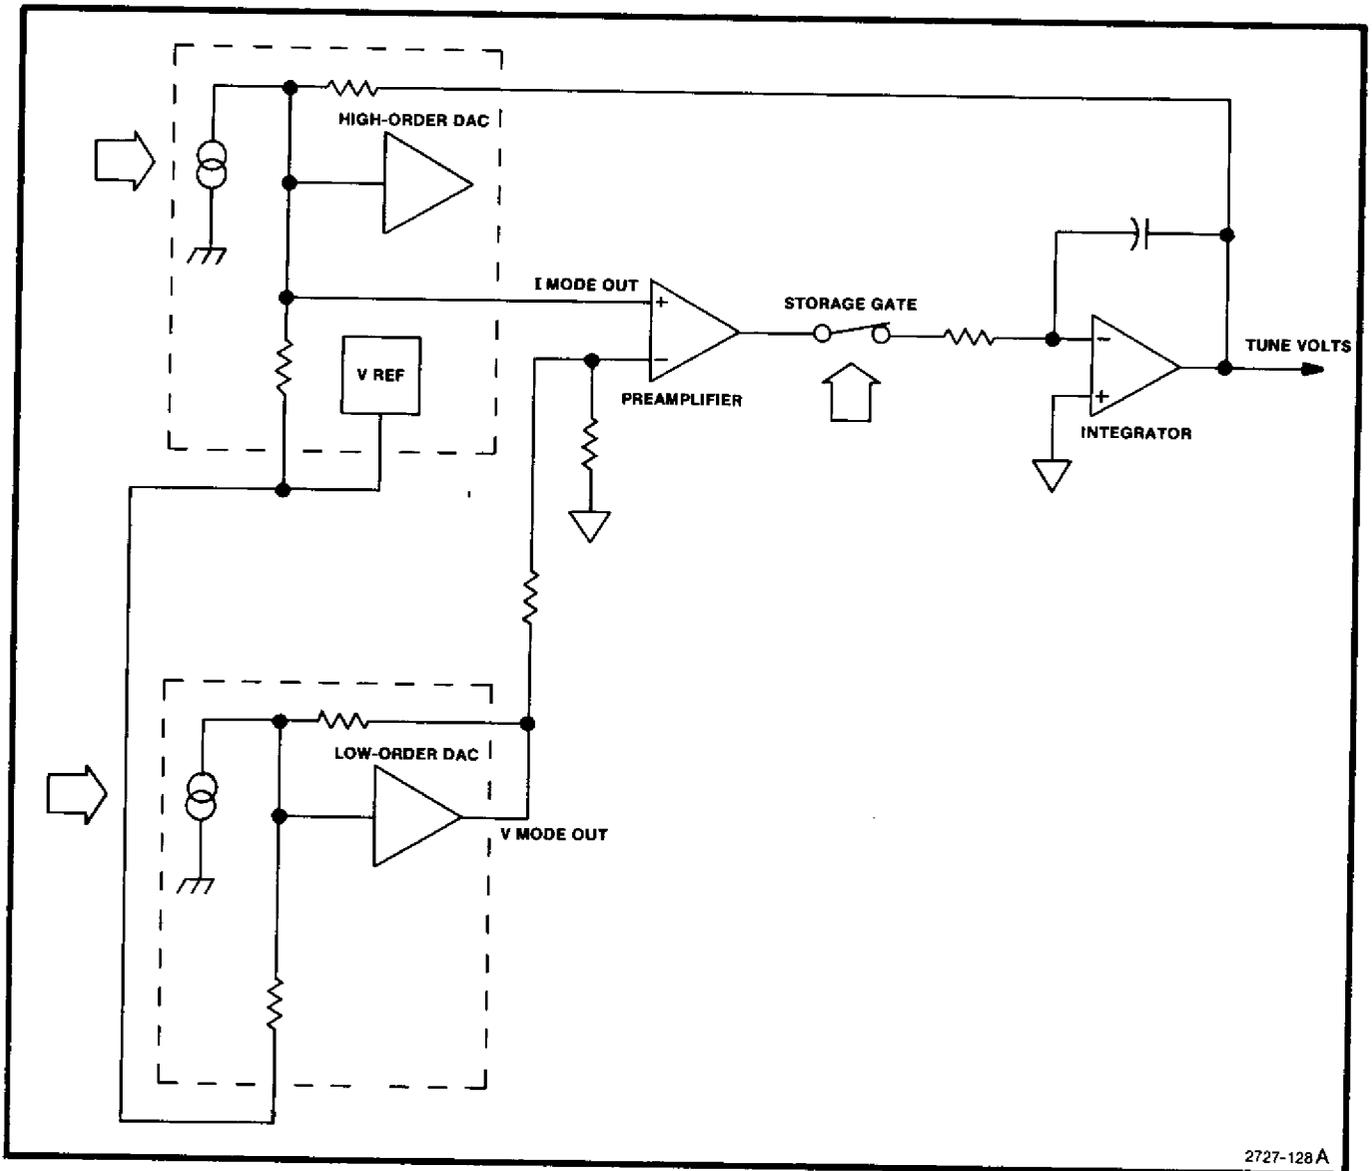

Fig. 5-25. Basic tune voltage converter.
The first operating mode is the tracking mode, where the preamplifier and integrator are connected together by the disconnect stage, and the entire unit acts as an operational amplifier. Figure 5-25 illustrates the basic circuit. While the circuit operates in this mode, the amplifier tracks the DAC stage, and sends the voltage out to the tuning circuits.
**Digital-To-Analog Converters.** Each side of the converter has two DAC stages contained on sub-assemblies A46A1 and A46A3, (DAC 1200 Interface). These sub-assemblies plug into the Center Frequency Control board A46 through IC sockets J1024 and J1030 for the Coarse Tune circuit, and J3024 and J3030 for the Fine Tune circuit. Since both sets operate the same, only Coarse Tune units are described. Each DAC furnishes current or voltage outputs that are commensurate with the data applied. Figure 5-25 is a functional block diagram of each DAC, illustrating its operation in the circuit. U1020 is the low-order DAC, U1026 is the high-order DAC. U1012 and Q1018 are configured as an operational amplifier to provide the drive for U1024.
Integrator U2046 tracks the preamplifier output during track mode and serves as the inverting amplifier for the feedback system shown in Fig. 5-25. Under normal circumstances the incoming signal is routed through R2046. To improve the amplifier's slewing rate, CR2044 and CR2045 conduct to connect R2047 in parallel with R2046 when signals in excess of one volt are applied. This speeds up the response of the circuit when large scale tuning changes are required.